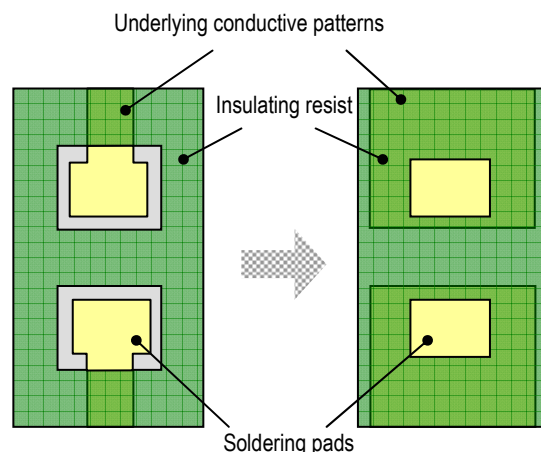

Fig. 3
3. Increase the size of soldering patterns. (Fig. 3)